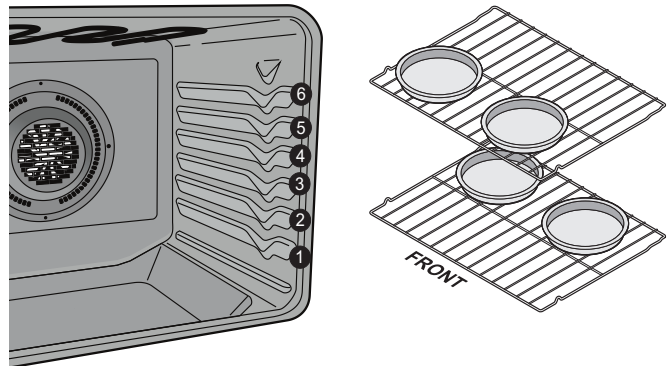

Figure 6: Rack positions and pan placement
- For best results when baking layer cakes using two oven racks, place racks in positions 3 and 6 and place pans as shown in Figure 6.